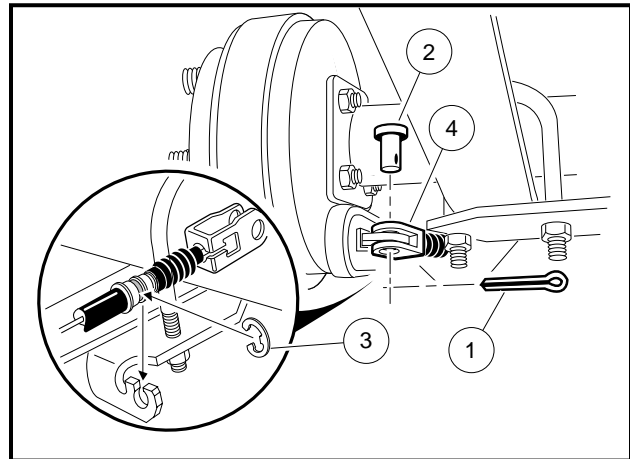

Figure 16-19 Brake Cable
- 4.1. Remove cotter pins (1), brake cable clevis pins (2), and E-clips (3) (**Figure 16-19, Page 16-10**).
- 4.2. Remove the cable from the cable support bracket (**Figure 16-19, Page 16-10**).